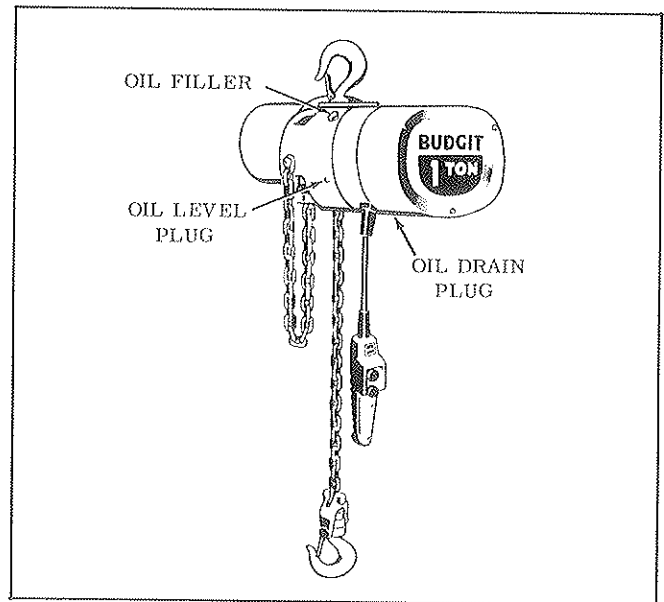

Figure 4-1. Location of Oil Filler and Plugs
Check Oil Level. (Fig. 4-1) The gear case has been filled with oil, to the proper level at the factory. However, the oil level should be checked before hoist is operated.
4-2. CHANGE GEAR CASE OIL (Fig. 4-1)
(1) Check to see that bolts securing motor to frame are tight. Also check for any visible damage to motor, such as a cracked end bell or dented stator housing. Replace damaged parts.
(2) Check hoist frame for signs of visible damage. If frame shows evidence of fracture, the hoist should be disassembled and inspected for further signs of damage from possible overloading. Replace damaged parts. Also check condition of limit lever.
(3) Check for possible damage to electrical compartment cover. Be sure screws holding cover are tight.
e. Check Oil Level. Remove oil level plug (fig. 4-1). If oil level is not even with bottom of tapped hole, add Automatic Transmission Fluid, DEXRON Type, to bring to proper level.